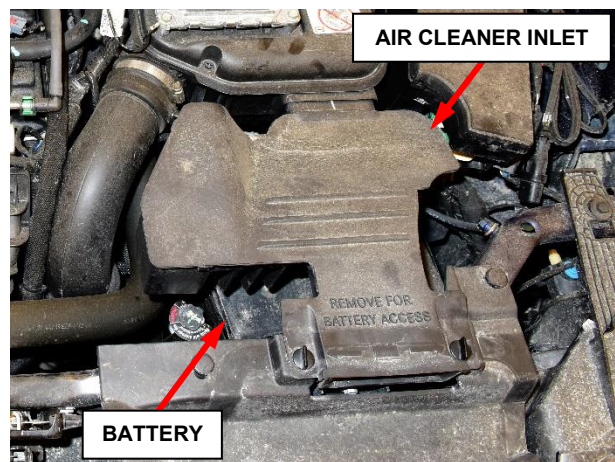
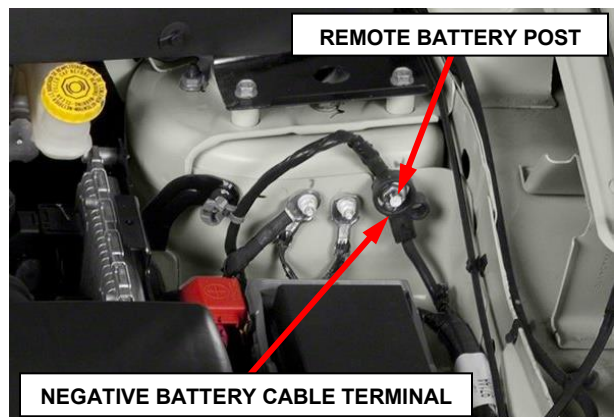

Figure 3 – MK/PM Only:
Figure 4 – JC/JS Only:
2. *(MK) Jeep Patriot, Jeep Compass and (PM) Dodge Caliber vehicles:* Remove the air cleaner inlet in order to access the battery (Figure 3).
3. *(MK) Jeep Patriot, Jeep Compass and (PM) Dodge Caliber vehicles:* Disconnect and isolate the negative battery cable from the battery.
4. *(JC) Dodge Journey and (JS) Dodge Avenger, Chrysler 200 vehicles:* Disconnect and isolate the negative battery cable terminal from the remote battery post (Figure 4).
5. *All vehicles:* Disconnect the upstream oxygen sensor electrical connector (Figures 3 and 4).
36. *(JC) Dodge Journey and (JS) Dodge Avenger, Chrysler 200 vehicles:* Connect the negative battery cable terminal to the remote battery post. Tighten the nut to 28 N·m (18 ft. lbs.) (Figure 4).
37. *(MK) Jeep Patriot, Jeep Compass and (PM) Dodge Caliber vehicles:* Connect the negative battery cable to the battery. Tighten the cable clamp nut to 5 N·m (45 in. lbs.).
17. *(MK) Jeep Patriot, Jeep Compass and (PM) Dodge Caliber vehicles:* Install the air cleaner inlet (Figure 3).